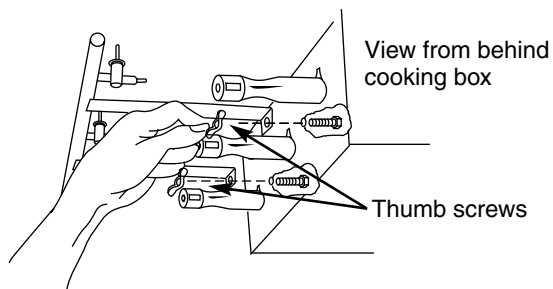

Figure 12
f) Remove the manifold bracket and unscrew the two thumb screws that hold the manifold to the cooking box. Pull the manifold and valve assembly out of the burners and carefully set it down. Figure 12.